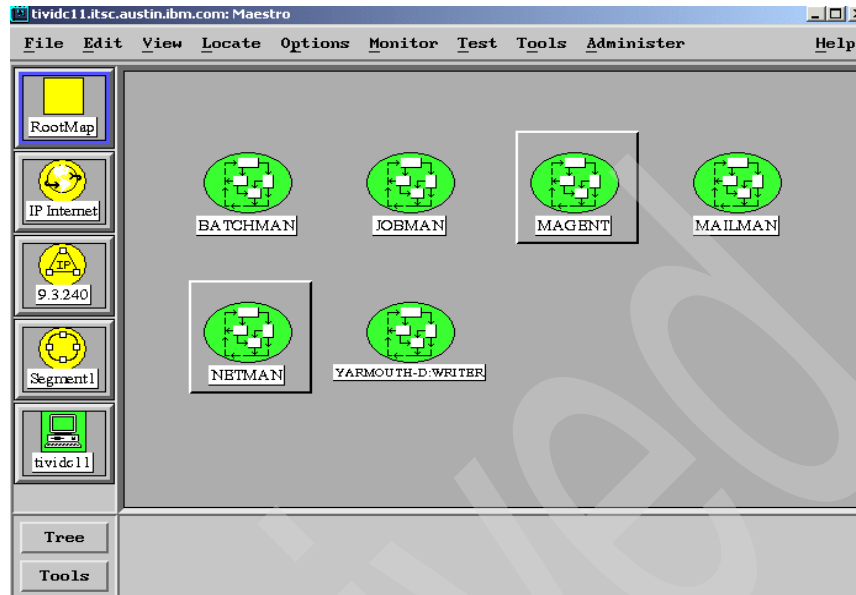

Figure 13-19 All processes up
7. After the polling cycle (which is 60 seconds by default) all TWS processes should be started on tivdc11. When you select the **Maestro** icon again, you should see all processes started, and all colors should turn green, as shown in Figure 13-19 on page 644.